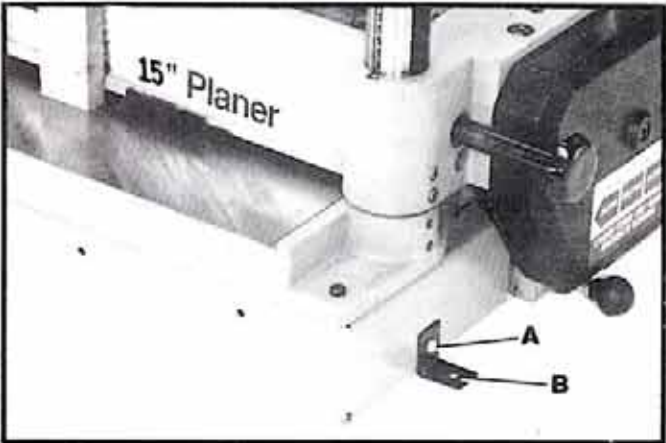

Fig. 4
1. Remove screw (A) Fig.4, and remove and discard shipping strap (B) From base of machine. Remove remaining shipping strap from other side of machine in the same manner.